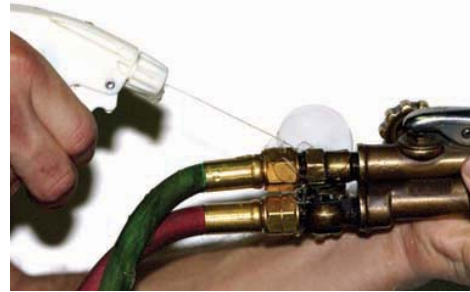

FIGURE 21-14 Leak-check all gas fittings. Larry Jeffus
15. With both torch valves closed, spray a leak-detecting solution on all connections, including the cylinder valves. Tighten any connection that shows bubbles, Figure 21-14.